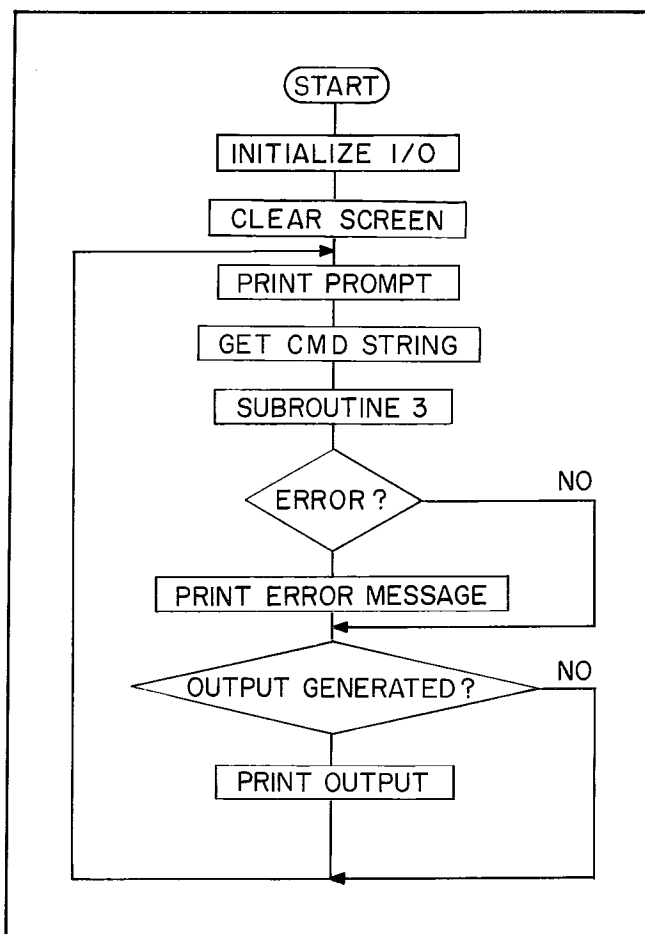

Figure IV-11. SIMPLE STATIC INTERFACE ROUTINE
new one. For this reason, a single subroutine is recommended for sending all commands to the instrument. A string containing the commands can be passed to this subroutine. In the same vein, it is also recommended that a single subroutine be used to receive responses from the instrument. Figures IV-11 and IV-12 illustrate suitable flowcharts.
(1) **SIMPLE STATIC INTERFACE ROUTINE:** This program provides the software necessary to control the Model 5205 or Model 5206 from a host computer. The routine follows the program flow illustrated in Figure IV-11. It has been coded for an Apple II, a Tektronics 4051, an HP85, an HP9825, an HP9845, a MACSYM, and a PET. (**NOTE:** The coding for the HP9845 and MACSYM had not been validated as of the time this manual was written.)
The routine illustrated in Figure IV-11 initially clears the video terminal of the host computer, asks the operator for the instrument's GPIB address, and then issues the prompt ENTER COMMAND:. The program then sends a command string entered from the host computer's keyboard to the instrument. If the instrument generates an output as a result of this string, the host computer's video terminal will display the output and then the prompt, ENTER COMMAND. If there is an invalid command in the command string, the